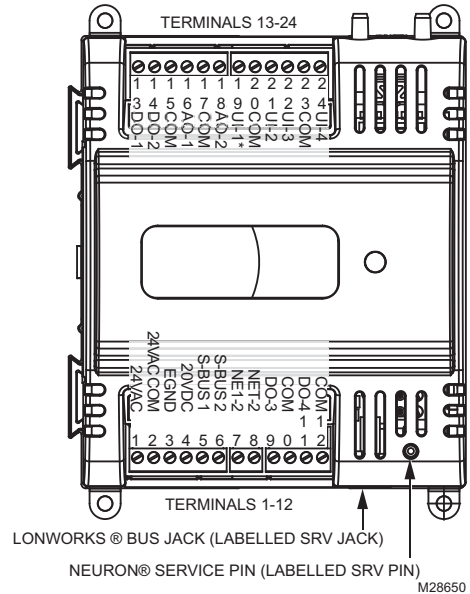
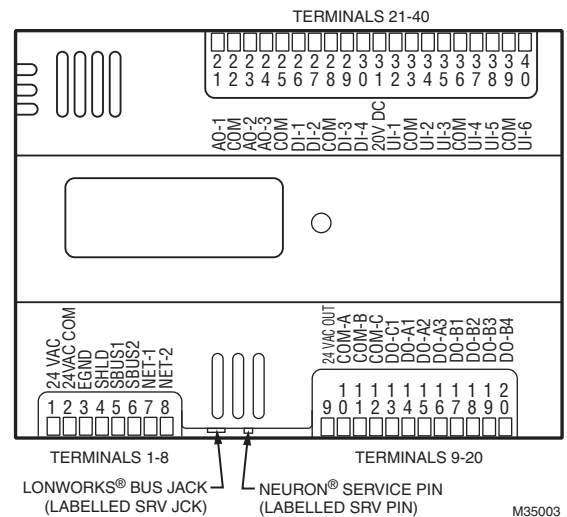
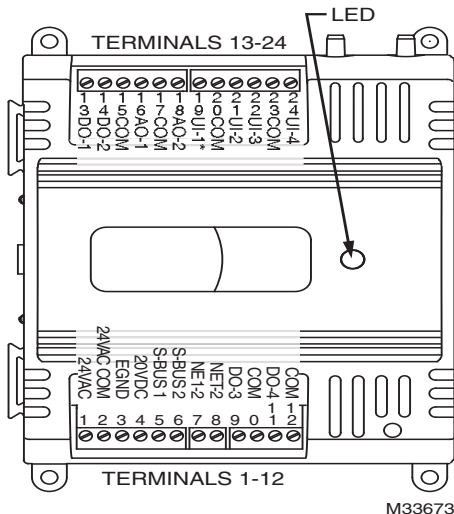

Fig. 16. Controller terminal connections, NEURON® Service Pin and LONWORKS® Bus Jack for the CVL4022AS-VAV1, and CVL4024NS-VAV1 (CVL4024NS-VAV1 shown).
Fig. 17. Controller terminal connections, NEURON® service pin and LONWORKS® bus jack for CUL6438SR-CV1.
Fig. 23. LED location.
The NEURON® Service Pin pushbutton (when pressed) transmits the Service Message to the network, regardless of the controller's current mode of operation (see Fig. 16 and 17 on page 13).
The LONWORKS Bus connection is provided by plugging the Serial LONTALK Adapter (SLTA) connector into the LONWORKS® Bus Jack (see Fig. 16 and Fig. 17 on page 13).
Refer to Fig. 23 and the following text for startup information.
- To send the Service Message from the controller, press the NEURON® Service Pin pushbutton on the controller (see Fig. 23 and Fig. 16 and 17 on page 13). This button sends out the Service Message when it is pressed, regardless of the controller's current mode of operation